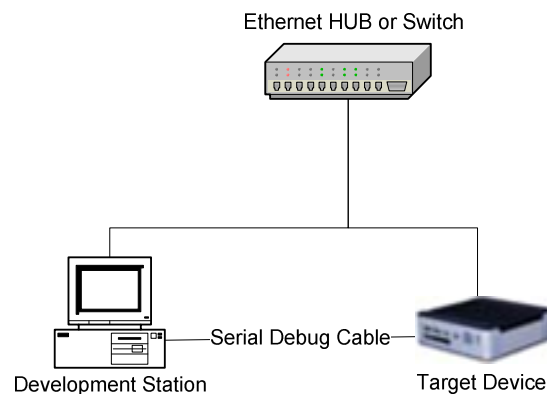

Fig. B2
2. The target device and the development workstation are attached to the same Ethernet hub or switch without DHCP service, as shown in Figure B2.